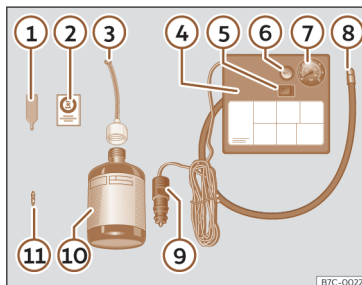

Fig. 35 Standard representation: anti-puncture kit contents.
>>> Fig. 35:
- Unscrew the tyre valve cap and insert. Use the >>> Fig. 35 ① tool to remove the insert. Place it on a clean surface.
- Shake the tyre sealant bottle vigorously >>> Fig. 35 ⑩.
- Screw the inflator tube >>> Fig. 35 ③ into the sealant bottle. The bottle's seal will break automatically.
- Remove the lid from the filling tube >>> Fig. 35 ③ and screw the open end of the tube into the tyre valve.
- Place the insert back into the tyre valve using the tool»» **Fig. 35 ①**.
- Screw the compressor tyre inflator tube »» **Fig. 35 ⑧** into the tyre valve.
- Check that the air bleed screw is closed »» **Fig. 35 ⑥**.
- Insert the connector»» **Fig. 35 ⑨** into the vehicle's 12-volt socket»» **page 147**.
- Turn the air compressor on with the ON/OFF switch»» **Fig. 35 ⑤**.
- Attach the sticker»» **Fig. 35 ②** to the instrument cluster, within the driver's visual field.
Screw the inflator tube»» **Fig. 35 ⑤** again and check the pressure on the gauge **⑥**.